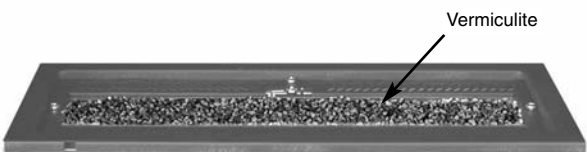

Fig. 41
1. Fill the burner with the vermiculite supplied (Fig. 41).